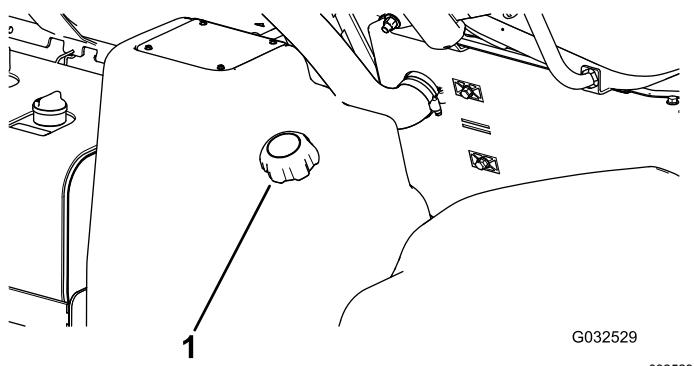

Figure 19
- Clean the area around the fuel-tank cap (Figure 19).